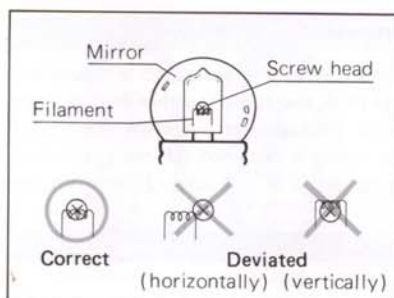

Fig. 6
- 3) Looking at the bulb from its front direction, ascertain that the lower half of the screw head on the mirror surface is covered by the filament. (Fig. 6)
★ If the filament deviates horizontally from the center of the screw head, the bulb tilts to the right or left. Attach the bulb again perpendicularly. (Fig. 6)
★ If the filament deviates vertically, the contact pins are not inserted completely. Push in the pins completely. (Fig. 6)